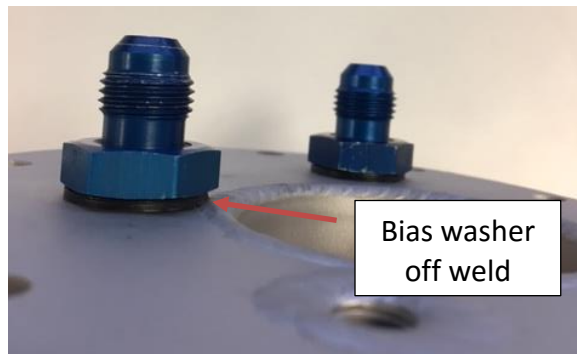

Figure 3: Photo of nylon washer bias off the weld as far a possible.
13. \_\_\_ Re-install the return side AN833-6D bulkhead fitting, NAS1149C0932R steel washer, 95606A520 nylon washer and AN924-6D nut. Bias the nylon washer as far off the weld as possible during reassembly (as shown in figure 3). Apply Loctite 243 and torque fitting and nut to 120-150 in-lb.